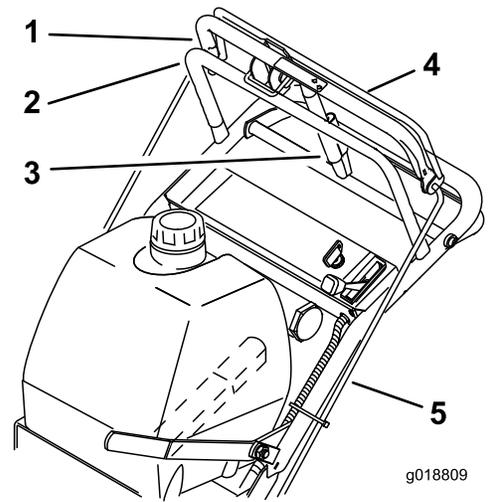

Figure 22
1. Check the gap between the upper control bar and the fixed bar with the wheel drive fully engaged. The gap will need to be approximately 25 to 32 mm (1 to 1-1/4 inches); refer to Figure 22.